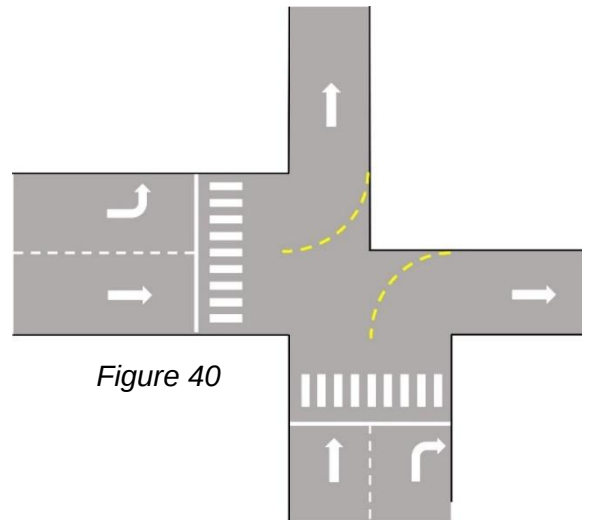

Figure 40
- “Traffic Light Layout for Assembly” **Figure 40**